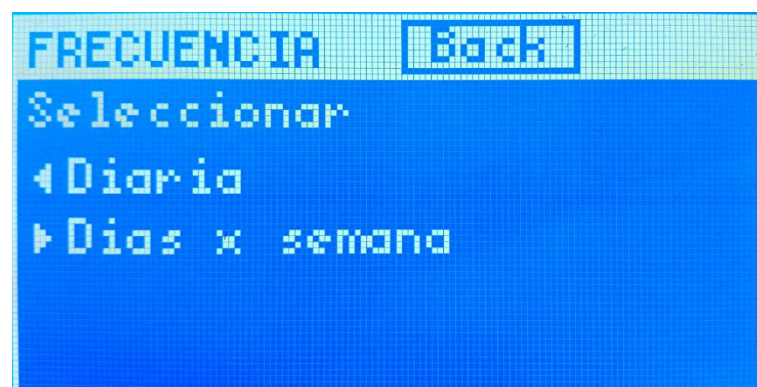

Figure 8- Frequency Screen
4. Select the frequency to dispense the pills with the ← or → buttons (Figure 8).